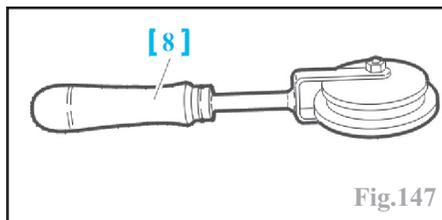

Fig.147
-[8] Outil (-).1357-B de pose du joint enjoliveur (Fig.147).